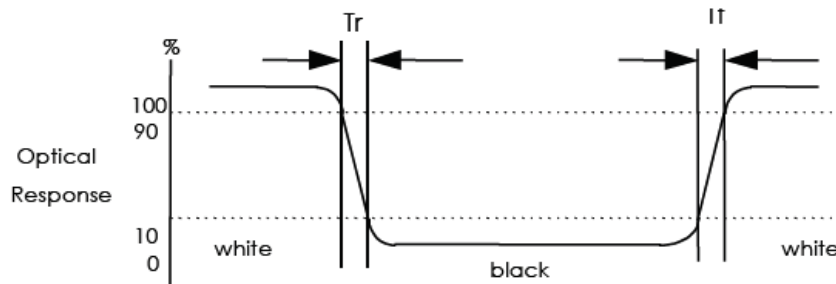

FIG. 2 Measuring method for Contrast ratio, surface luminance, Luminance uniformity , CIE (x, y) chromaticity
Note 1. Contrast Ratio(CR) is defined mathematically as For more information see FIG 2.
Note 2. Surface luminance is the LCD surface from the surface with all pixels displaying white. For more information see FIG 2.
Note 3. The uniformity in surface luminance ,  $\delta$  WHITE is determined by measuring luminance at each test position 1 through 5, and then dividing the maximum luminance of 5 points luminance by minimum luminance of 5 points luminance. For more information see FIG 2.